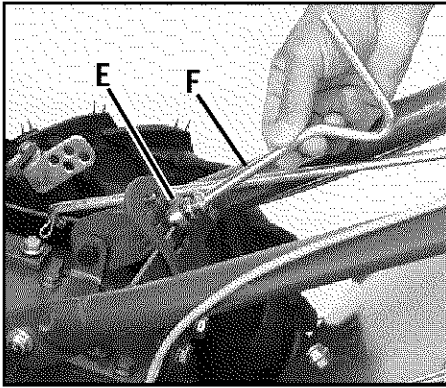

Figure 2-4: Install adjustment handle.
4. Move the handlebar to align the threaded hole in the cross-brace with one of the four slots in the curved height adjustment bracket. Place the keyed washer (E, Figure 2-4) on the height adjustment handle (F) with the raised keys (edges) on the washer facing down.